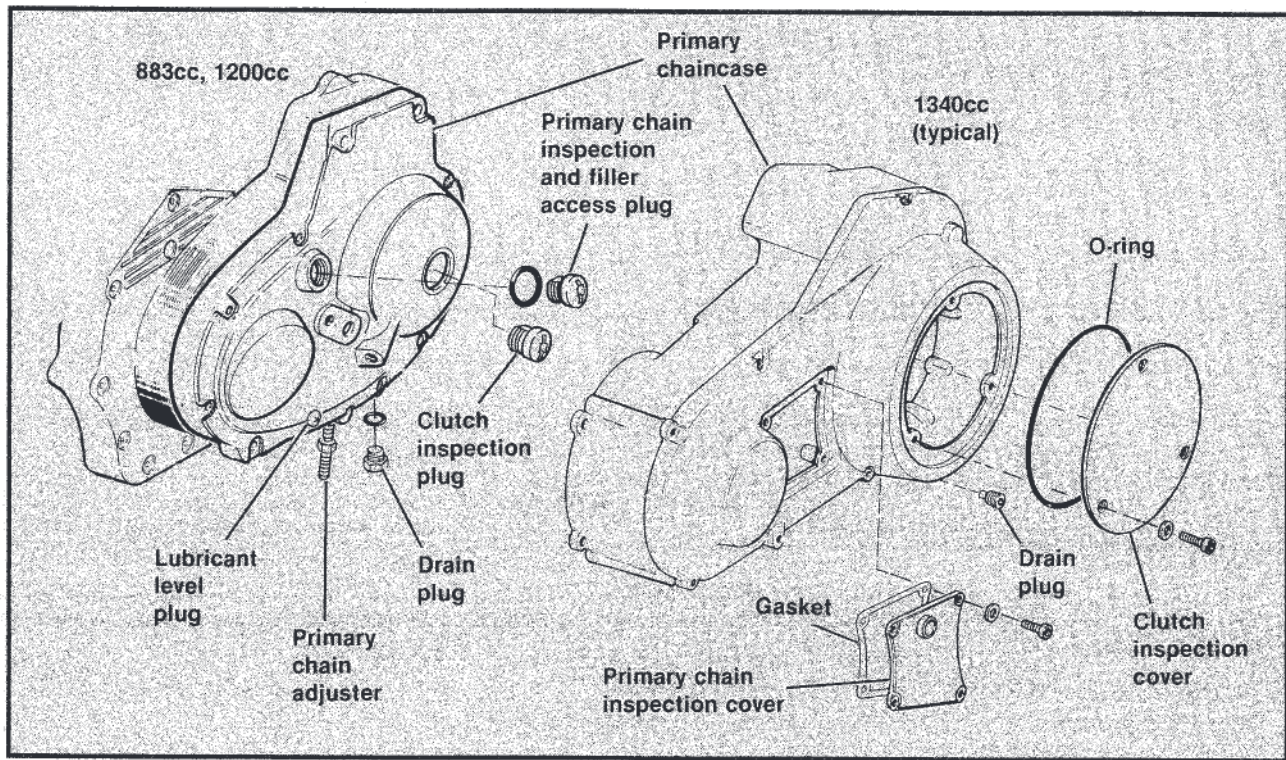

Figure 34. Primary Chaincase
2. See Figure 34. Remove screws and washers that secure clutch inspection cover.
See Figure 34. The drain plug is located on the underside of the chaincase. The filler access is located near the top of the chaincase cover. The lubricant level plug is located near the bottom of the chaincase cover. To determine correct lubricant level in the transmission and chaincase compartments, proceed as follows: